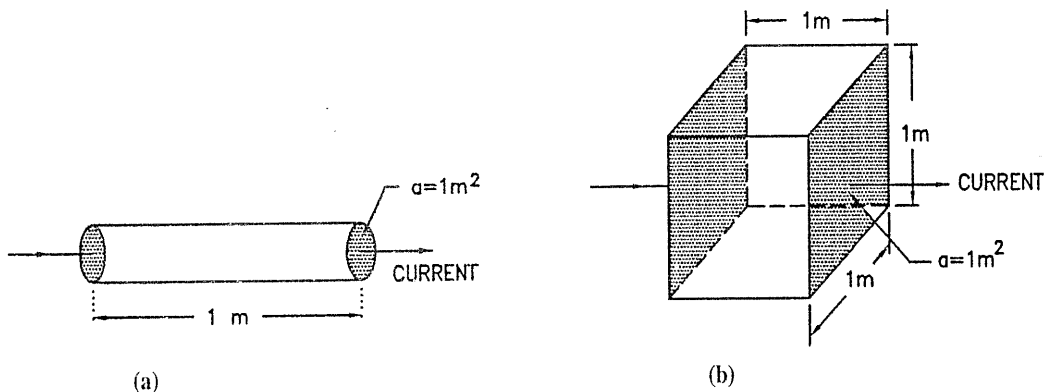

FIG. 1.21 : SPECIFIC RESISTANCE
- Specific resistance of a material of a conductor is the resistance offered by one meter length of wire of a material having cross-section of 1 m^2 , (Refer Fig. 1.21)
- In other words, it is defined as the resistance between the opposite faces of a cube of the material having each side of 1 meter as shown in fig. 1.21 (b).